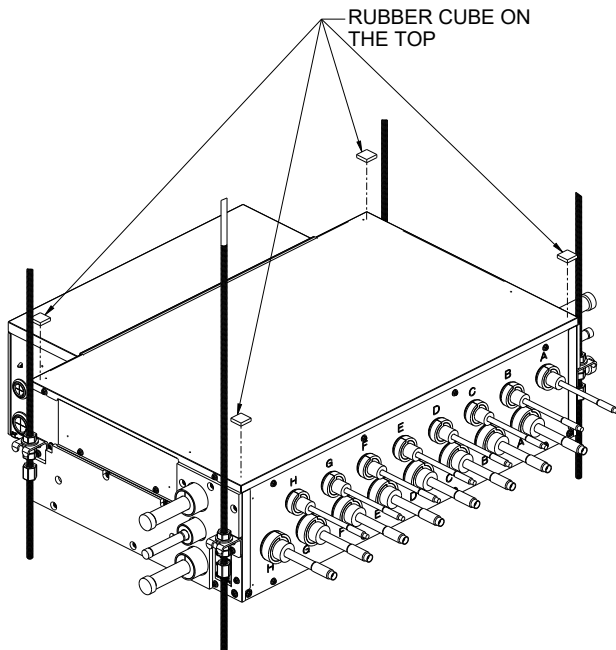

FIGURE E.1
- 1.1 Remove the adhesive liner and attach the 1/4-inch rubber pads (Item No.12) to the top of the Valve Box at each of the 4 corners. (As indicated in Figure E.1)